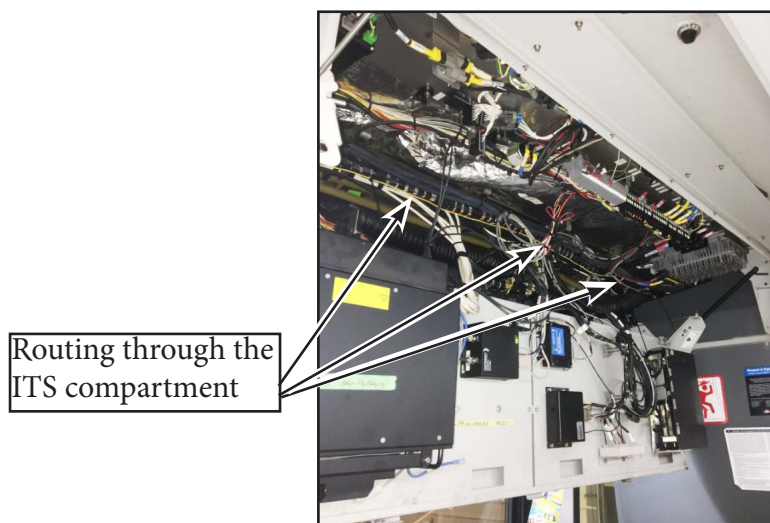

Figure 21 - Front to Back Cable Routing in the ITS Panel Area
- 2.8. Continue routing and tie wrapping the front to back cable through the ITS compartment (see Figure 21).